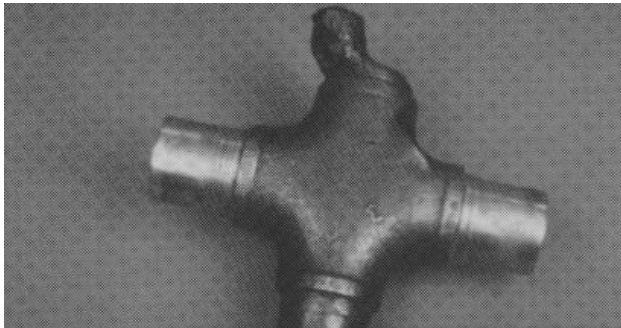

**Figure 71** Scored and Worn Idler Pin
5. Scored and worn idler pin (Figure 71). This condition could be from normal wear or contaminated lubricant. The discoloration could also indicate overheating or a low lubricant level.